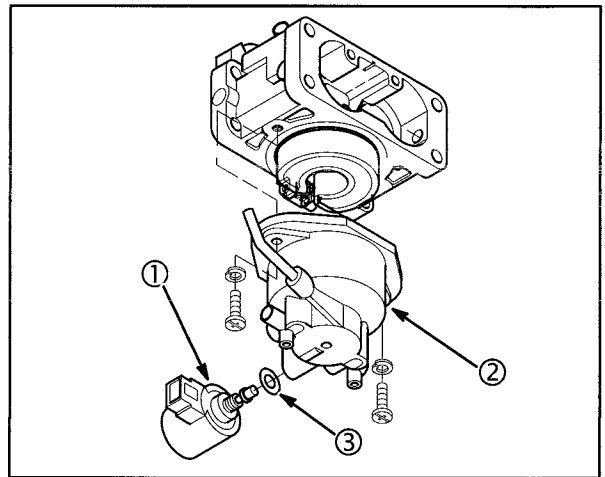

Fig. 117
2. Remove two screws and float bowl (2), Fig. 117. Discard O-ring.
3. Use **13 mm** thin profile wrench to remove fuel solenoid (1) from float bowl. Discard gasket (3).